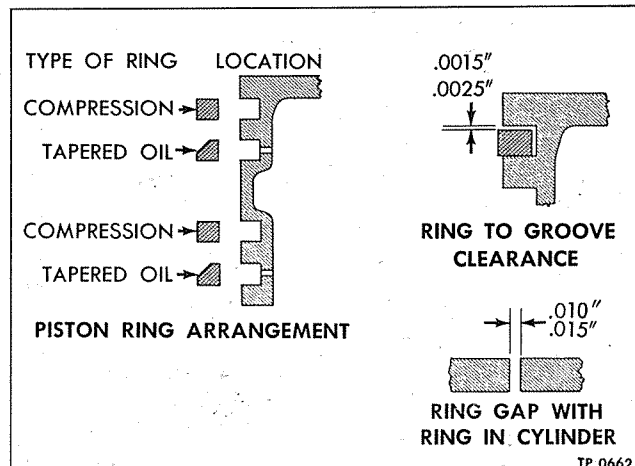

Figure 6—Piston Ring Arrangement and Clearances
12. **Piston Rings.** Check fit of piston rings in ring grooves in pistons (fig. 6). Clearance between the ring and the ring groove must not be less than .0015 inch or more than .0025 inch. Install ring in cylinder bore and measure ring
2. Install piston rings in grooves in pistons by hand. Four rings are used on each piston and they must be installed in their proper location as shown in figure 6. Careful inspection is necessary to determine which side of the tapered oil ring has the largest diameter. Tapered oil rings are marked with a small diamond shaped trade mark on the top side of the ring opposite the gap, and the ring must be installed with the trade mark toward the top of the piston. Compression rings are marked with a small diamond shaped trade mark near the gap and must be installed with the trade mark side toward the top of the piston.